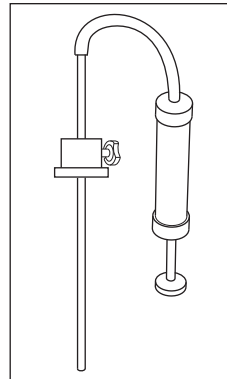

Fig. 1.22A
18. Front fork oil level gauge - 031 180 0 (Fig. 1.22A)